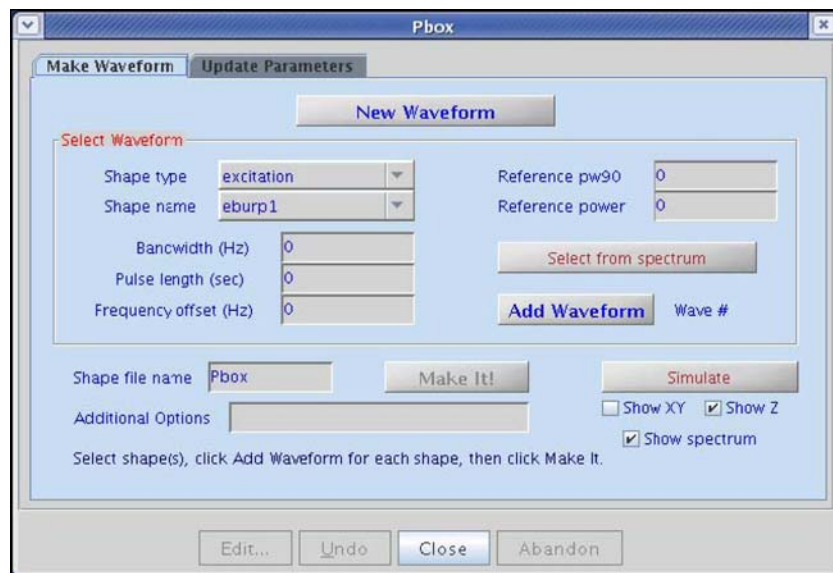

Figure 115 Pbox make waveform tab
- 5 Click the **New Waveform** button and the tools for creating a wave form are displayed in the **Pbox** window, see Figure 115.